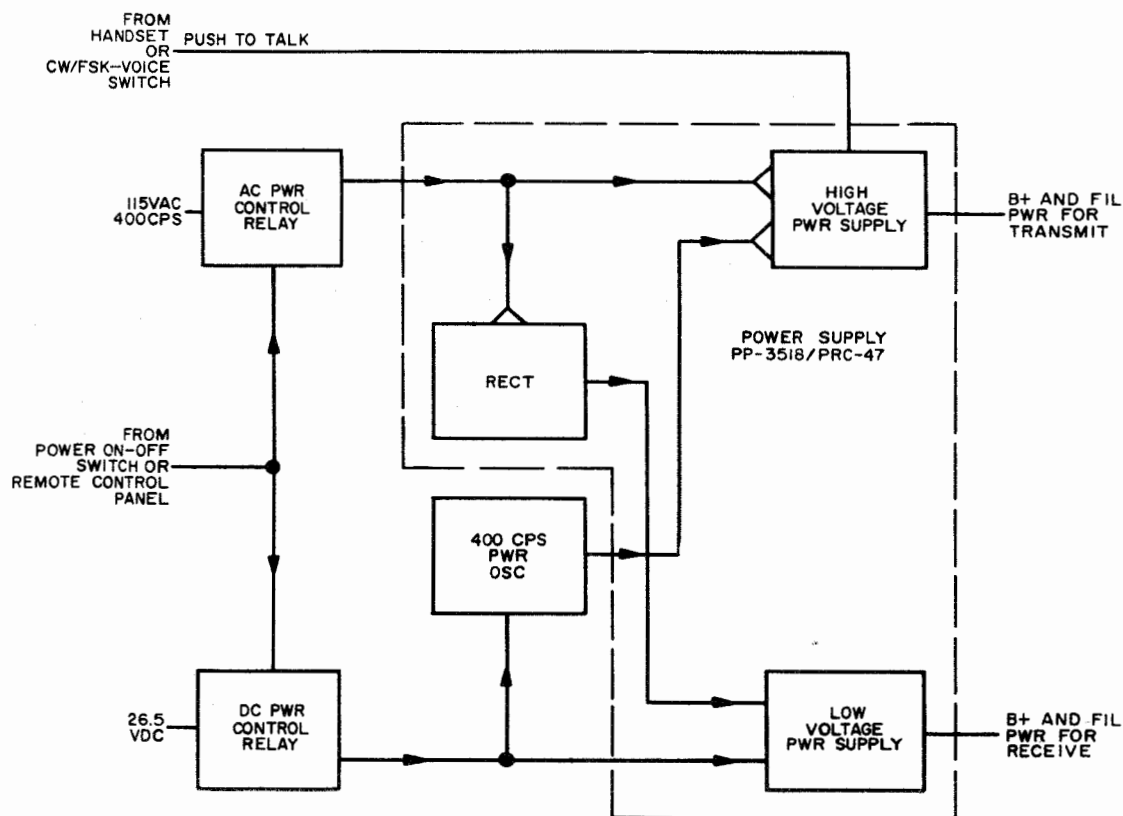

Figure 4-18. Power Supply Circuits, Functional Block Diagram
a. GENERAL DESCRIPTION. (See figure 4-18.) - The power supply circuits operate either from a 115-volt, 400-cps source or a +26.5-volt d-c source.